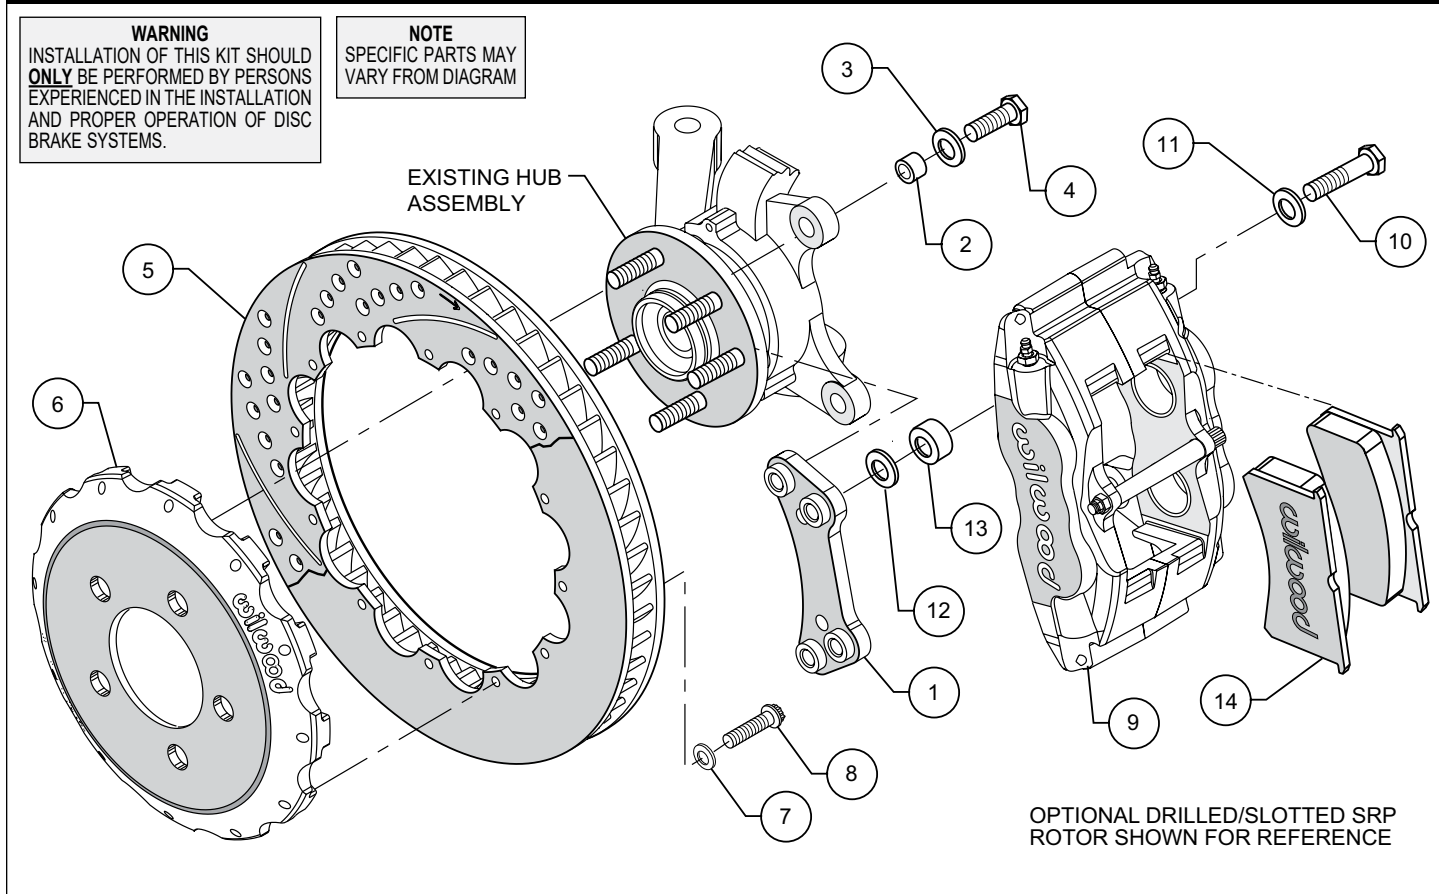

Figure 1. Typical Installation Configuration
NOTE: Numbers in parenthesis refer to the parts list and Figure 1 on the preceding pages.
•Insert one sleeve (2) each into the holes on the top and bottom of the spindle “ears” where the OEM caliper bracket was removed. Apply red *Loctite*® 271 to the caliper mounting bracket bolt threads (4) before installation of the caliper mounting bracket (1). Install the bracket with the flanged heads of the clinch nuts facing the outboard, as shown in Figure 1. Slide bolt (4) through washer (3) and into the previously installed sleeve (2), from the backside of the hub. Finger tighten. Repeat for the lower mounting holes. Torque bolts to 75 ft-lb.
•**NOTE:** Please reference the caution statement at the beginning of the assembly instructions. Mount the caliper (9) onto the caliper mounting bracket (1) using bolts (10) and washers (11), as shown in Figure 1. Insert spacer (13) between the caliper ears and the bracket, before tightening the bolts. View the rotor (5) through the top of the caliper. The rotor should be aligned in the center of the caliper. If not, loosen the two bolts and adjust the caliper by using 0.016 inch thick shims (12), placed between the spacer (13) and the bracket. Finger tighten and recheck alignment. Always use the same amount of shims on both the top and bottom caliper mounting bolts. Loosen the two bolts and apply red *Loctite*® 271 to bolt threads and torque to 75 ft-lb.
•Remove the caliper bridge bolt and install the disc brake pads (14) then reinstall the caliper bridge bolt.